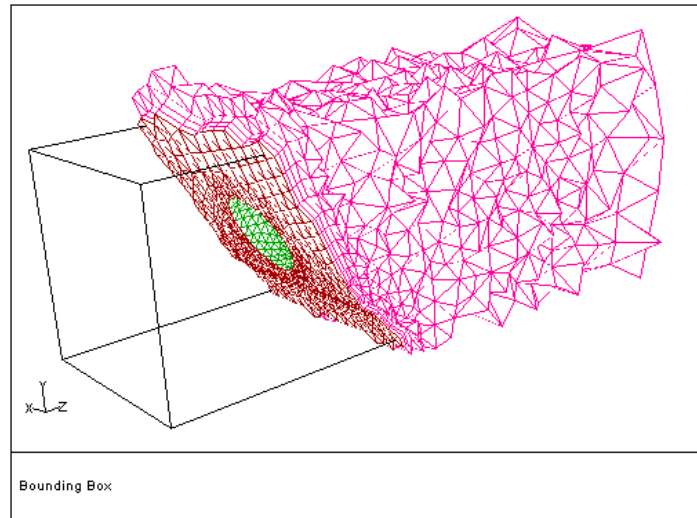

Figure 8.8: Cavity Domain Before Meshing
- (i) Click Draw to view the domain (Figure 8.8).